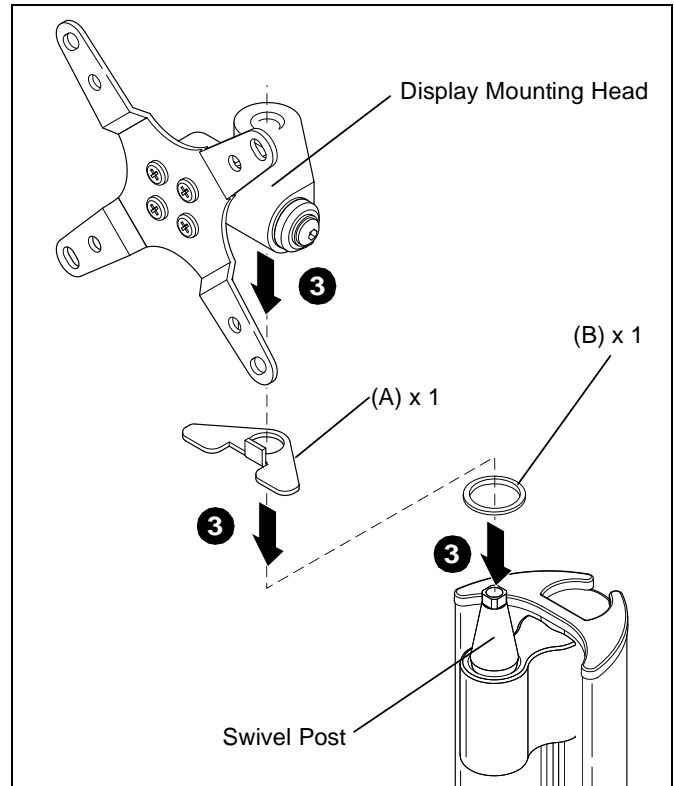

Figure 3
3. Install spacer (B) swivel limiter bracket (A) and display mounting head onto swivel post. (See Figure 3)